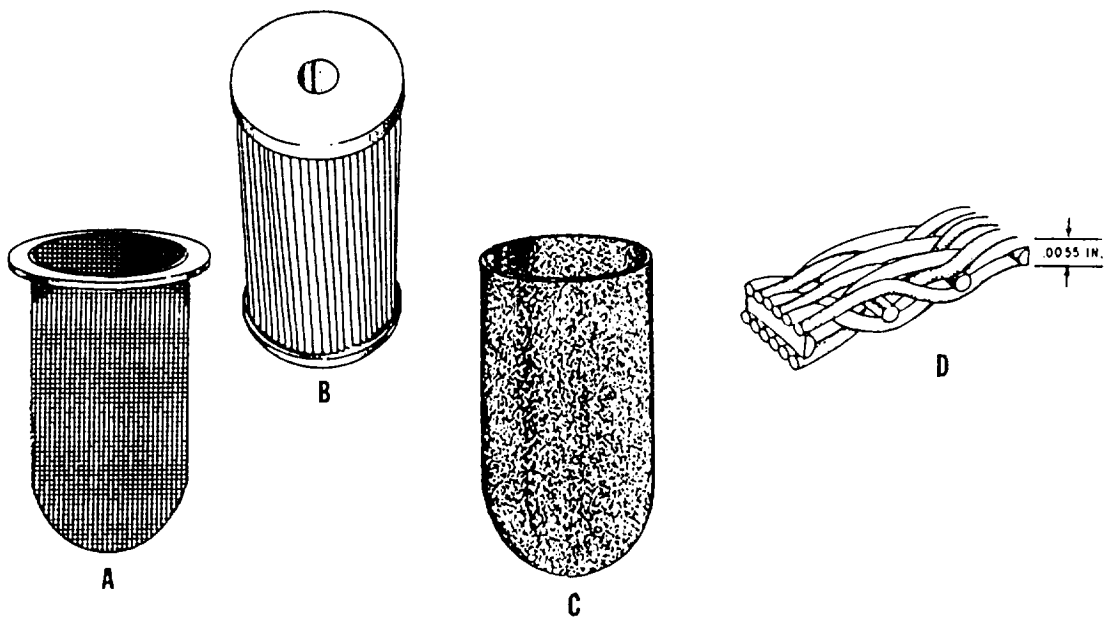

Figure 10-29. Some typical types of hydraulic screens and filters.
container or component (view (A) of fig. 10-29). The size of wire mesh openings varies with the particular filter element, but normally a wire mesh filter element removes only the larger particles of contamination from the fluid.
MICRONIC FILTER.— *Micronic*, a term derived from the word *micron*, can be used to describe any filter element. Through usage, micronic has become associated with a specific filter with a filtering element made of a specially treated cellulose paper. The paper is formed in vertical convolutions (wrinkles) and is made in a cylindrical pattern. A spring in the hollow core of the element holds the element in shape (view (B) of fig. 10-29).
Sintered Bronze Filter.— The sintered bronze element consists of minute bronze balls joined together as one solid piece while still remaining porous (view(C) of fig. 10-29).
construction to the sintered bronze element described previously. The design is usually a corrugated, sintered, stainless steel mesh, such as the magnified cross section shown in view (D) of figure 10-29. One manufacturer calls the design a "Dutch Twill" pattern. The curved passages of the filter element (through which the fluid passes) limit the length of the particles that pass through the element. Most filters that use the stainless steel are equipped with a contamination indicator, described later in this chapter.